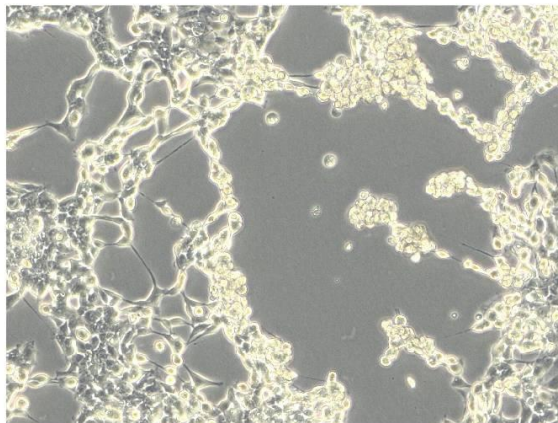

Figure 5. Observing the cytopathic effect when culturing adenovirus.
4. One day later, and periodically thereafter, check for the cytopathic effect (CPE) (Figure 5).
- Infected cells typically remain intact but round up and may detach from the plate. These changes are collectively referred to as the CPE (see Figure 5).
- The time it takes for CPE to appear depends on the transfection efficiency—it may take up to two weeks for CPE to become evident. Because adenovirus remains associated with cells until late in the infection cycle, high-titer virus is obtained by manually lysing cells with a series of freeze-thaw cycles as explained below in Steps 5–9. It is best to harvest cultures demonstrating a late CPE phenotype (see Figure 5).